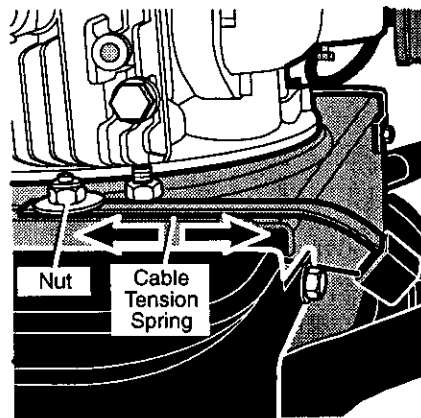

Figure 14
1. Loosen the **nut** that holds the **cable tension spring** (See Figure 14).